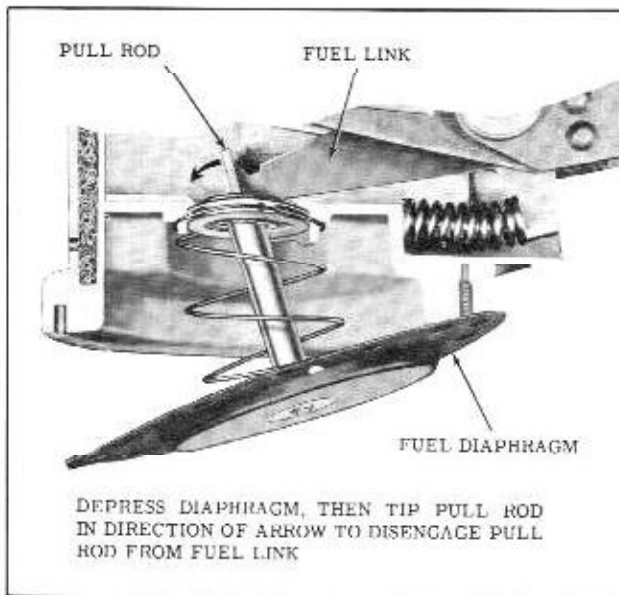

Fig. 8-66 Removing Fuel Diaphragm
5. Remove pump from vise. While holding pump with vacuum side up, push on diaphragm then tilt up on side opposite rocker arm to disengage pull rod from fuel link. Remove diaphragm and spring. (Fig. 8-66)